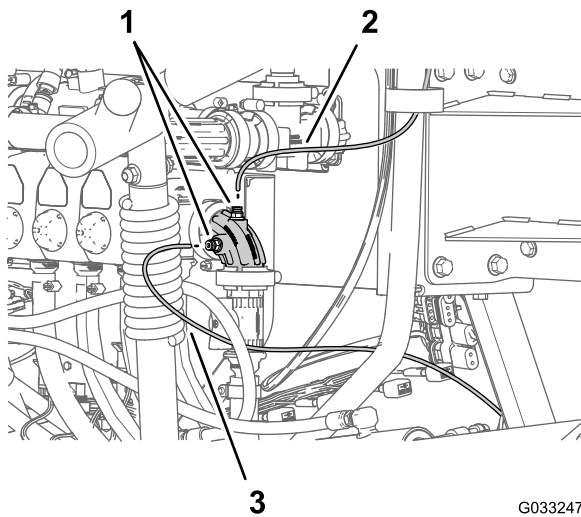

Figure 122
1. Align the end of the pressure-sense tube (plastic) for the pressure gauge in the dash with the locking collar for the tube coupler (Figure 121 and Figure 122).
2. Insert the sense tube into the locking collar until the tube is fully seated (Figure 121 and Figure 122).